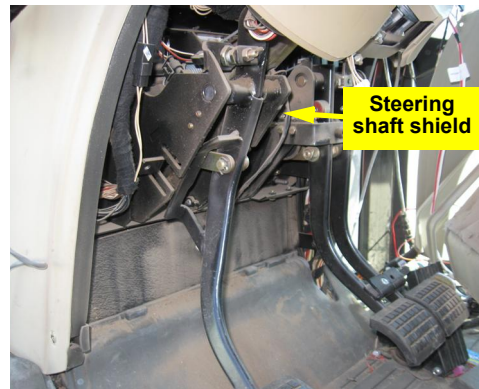

Figure 1b: Console panel removed. Steering shaft shield (not shown) between pedal mounts
- b. Locate the steering shaft shield and flange (Figure 1b).